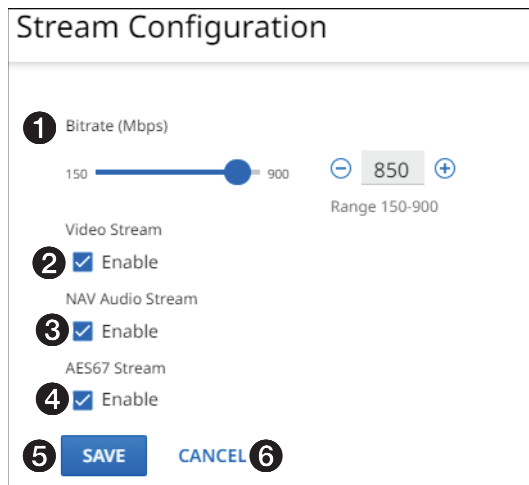

Figure 17. Stream Configuration Dialog Box
If you change any of the settings in the **Stream Configuration** dialog box (see figure 17, ① through ④), the **Save** button (⑤) becomes selectable. Click **Save** to take changes or **Cancel** (⑥) to abandon them. Clicking either button closes the dialog box.